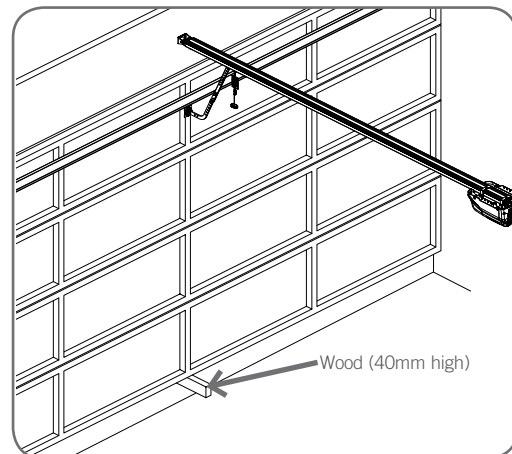

Fig. 29
- Place a piece of timber approximately 40mm high on the floor directly under the door (Fig. 29).